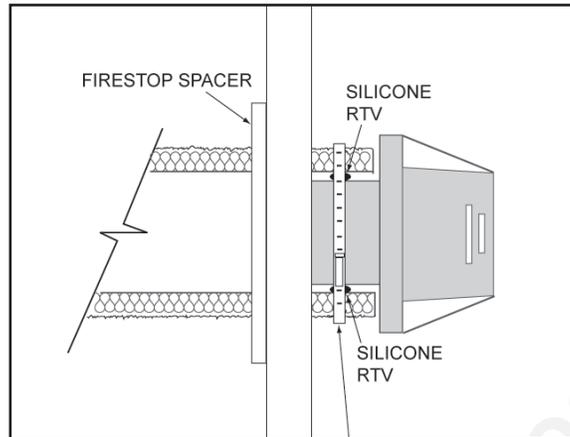

Figure 6
- d. Place a 1/2 in. bead of RTV in the receiving end of the appliance adapter and insert the end of the rigid B-Vent pipe. Secure the hose clamp to the pipe. Reference Figure 6 and inset in Figure 11 for RTV and hose clamp placement.